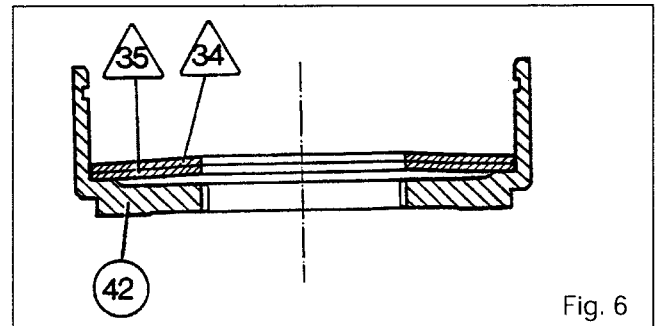
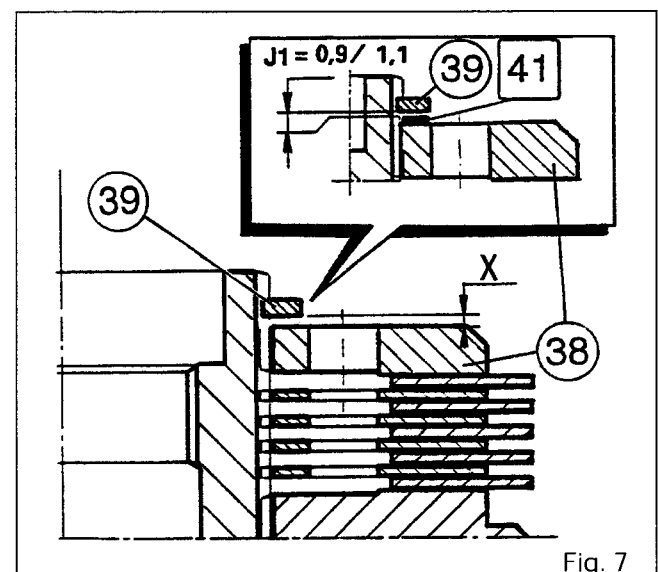

Fig. 6
Fig. 7
37. Position the Belleville washers /35\ and /34\ in the bell (42) (see Fig. 6).
38. Lubricate and fit the O-ring (33) on the hub (40).
39. Position the hub (40) in the bell (42) so that it bears against the Belleville washers.
40. Fit the discs (36), aligning the lugs. Fit the backing plates (37). Install the cover (38).
**Note : Discs (36) with thicker reinforcement (2 mm instead of 1.8 mm) were introduced on tractors from the following serial number onwards:**
41. **Shimming J1** (Fig. 7)